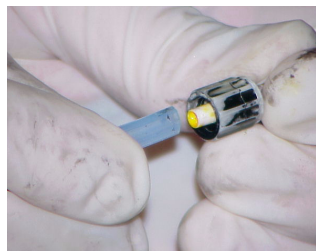

Figure 33. **Attaching Silicon Tubing**
9. Screw the end of the tubing attached below the ink filter onto the ink pipe plastic coupler (disconnected from the print head in Step 6), tightening the connection firmly - see Figure 33.